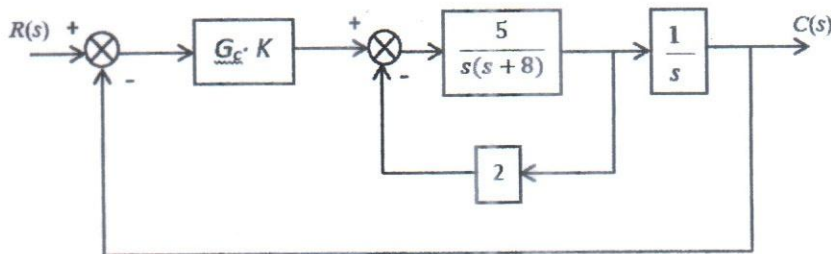
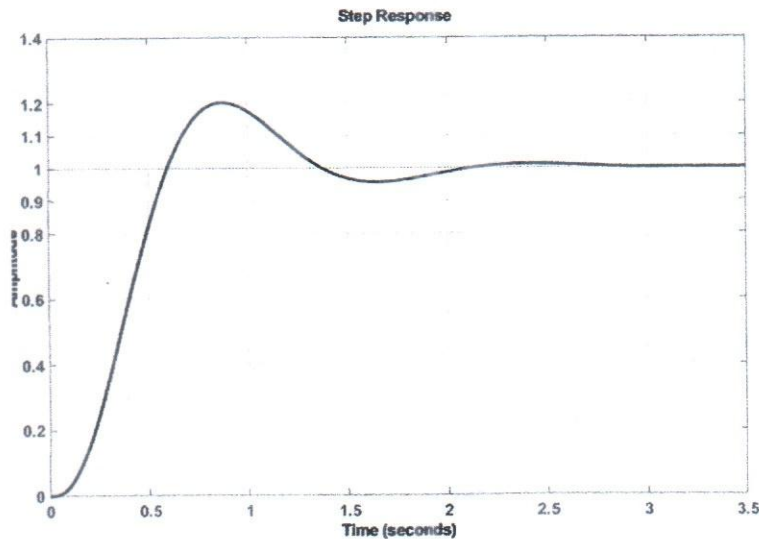

Figure 4: Block diagram of a mechatronic control system
Figure 5: A step response of a mechatronic system
2. Figure 4 shows a block diagram with forward gain, K representing motion control of a mechatronic system. Figure 5 then shows the current step response for this system. Design a suitable controller using the root locus technique that will improve the system transient performance in a way that it halves the settling time while maintaining the percentage overshoot value. Compare the step response results of both the uncompensated and the compensated system. **(25 Marks)**